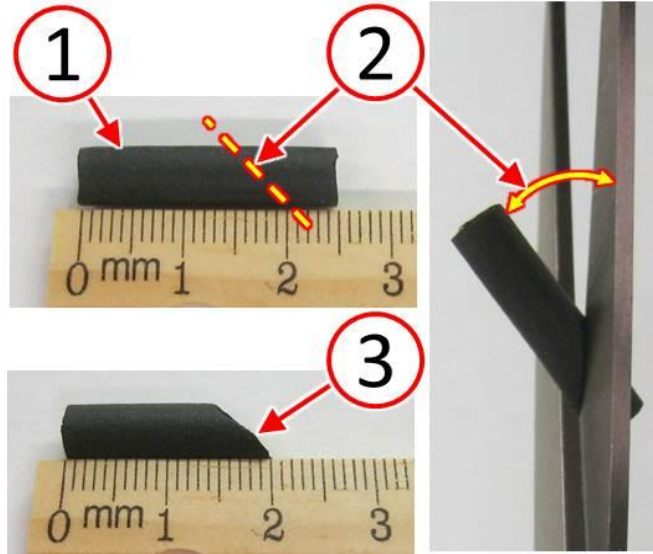

Fig. 5 Cut Stuffer End On 45 Degree Angle To Proper Length
5. Measure and mark a 20 mm length of foam stuffer (1) to be cut on a 45 degree angle (2) (Fig. 5).
6. Using an appropriate tool, cut the end of the foam stuffer (1) on a 45 degree angle (2) to a length of 20 mm (Fig. 5).
7. After cutting the 45 degree angle, ensure that the final length of the foam stuffer (3) is approximately 20 mm (Fig. 5).